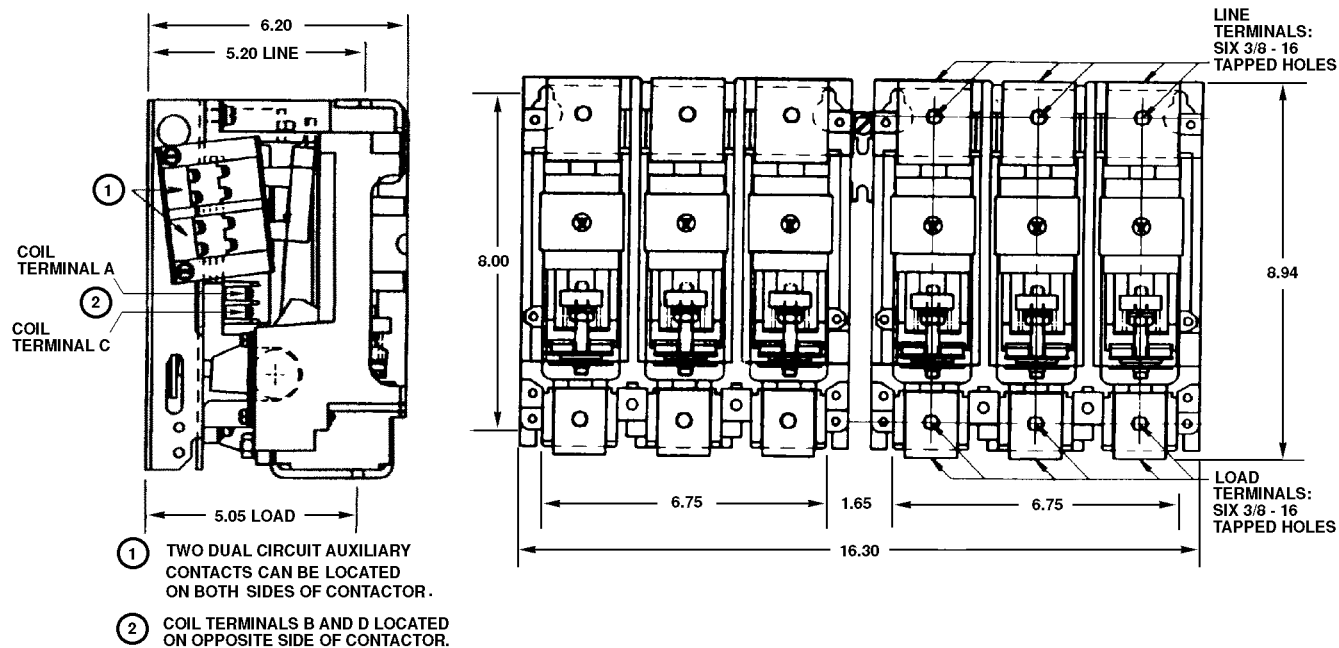

Figure 4 Dimensional Drawing (inches), Class 8502/8702 Type WGO
1. Disconnect all power. Test to make sure there is no voltage present at the main power terminals or at the coil terminals. Coil terminal location is shown in Figure 4 on page 9.
Note 1: Coil terminals A, B, C, and D shown in Figure 4 on page 9.